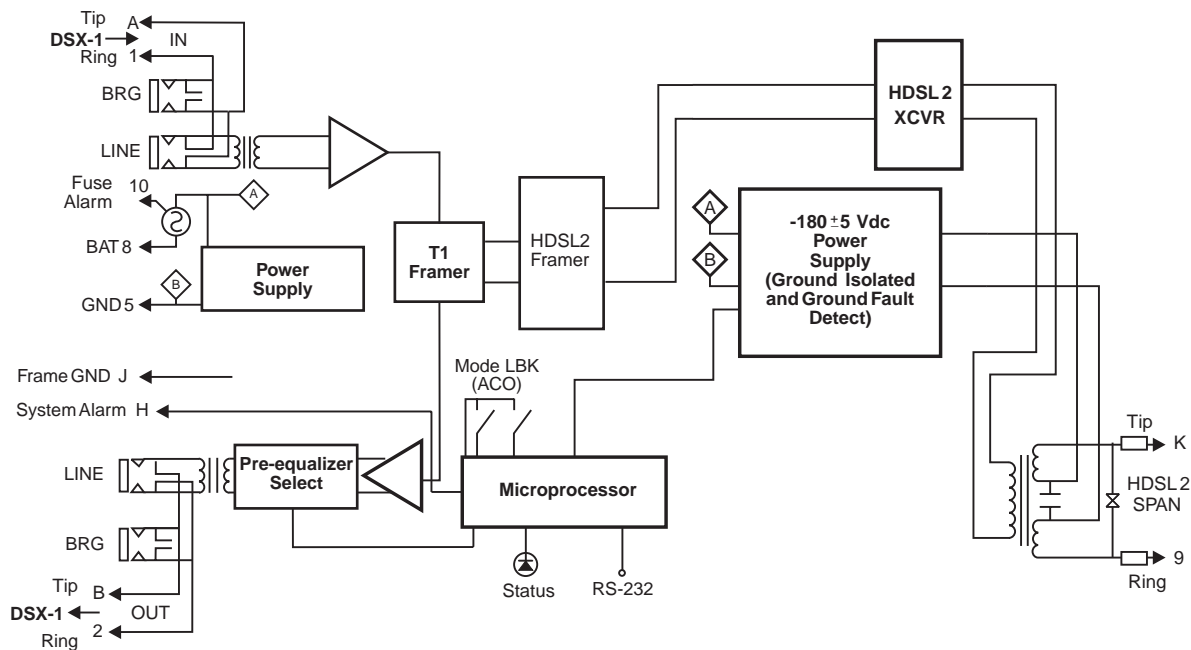

Figure 36. H2TU-C-319 List 3F Block Diagram
Figure 36 shows a block diagram of the H2TU-C-319 List 3F. The H2TU-C receives a 1.544 Mbps DSX-1 data stream from the DSX-1 digital cross-connect interface. The H2TU-C contains a DS1 frame synchronizer controlled by an 8-bit microprocessor that determines the type of framing on the DS1 stream. The H2TU-C synchronizes to the type of framing detected. The H2TU-C recognizes SuperFrame (SF), including D4 or Extended SuperFrame (ESF).